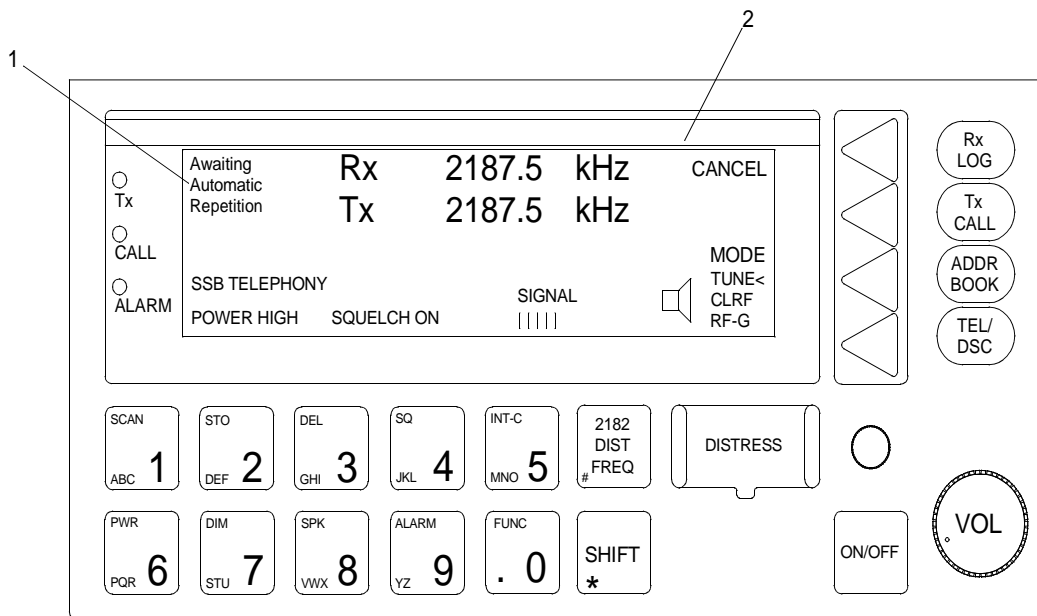

Figure 3. Awaiting Automatic Repetition Message
- Verify the Awaiting Automatic Repetition message (figure 3, item 1) appears in the LCD display (figure 3, item 2).